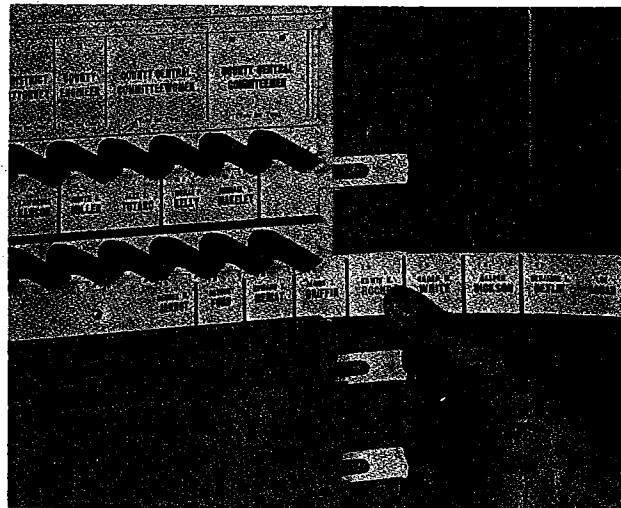

Figure 15. Inserting a Ballot Label.
3. Insert the Ballot Labels in the Ballot Label Holders (Figure 15) and move to their proper places. The labels should be so placed that (1) the name of each candidate and the "yes" and "no" of each question will appear directly below the correct voting pointer, (2) the letters on the labels will be placed vertically, in alphabetical order and (3) the numbers on the labels will correspond with their respective office columns. Cover Ballot Labels with the transparent strips for protection.